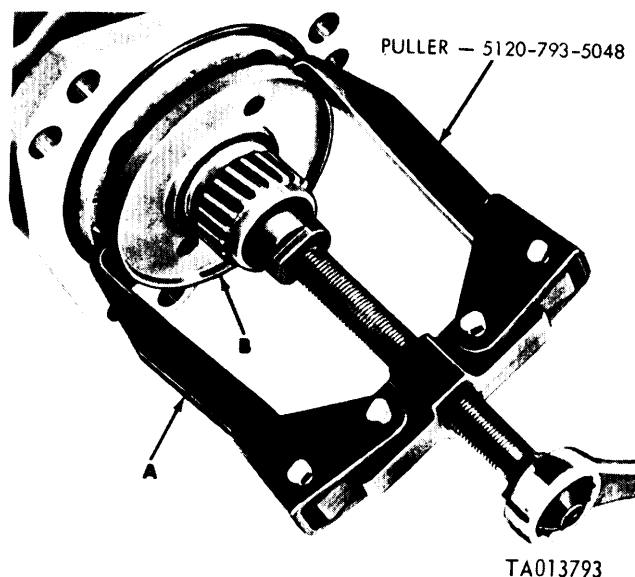

Figure 3-18. Removing timing device hub using puller - 5120-793-5048.
d. Refer to figure 3-18. Position puller (A) and loosen timing device hub (B).